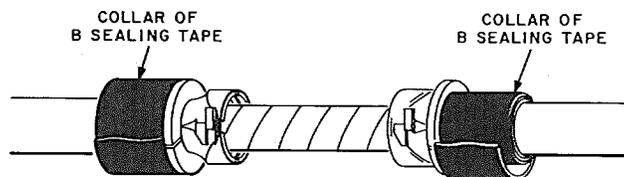

Fig. 15—Forming B Sealing Tape Collar
4.05 Build up collars of B sealing tape on the outer sheaths adjacent to the sealing washers equal to or slightly larger than the washers. Butt all joints of sealing tape. The tape should be kept clean and should not be stretched. Do not handle tape with damp or oily hands (Fig. 15).